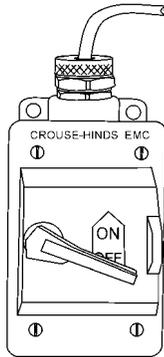

Figure 10. Power ON/OFF Switch
1. Place the power **ON/OFF** switch (Figure 10) in the **OFF** position (down).